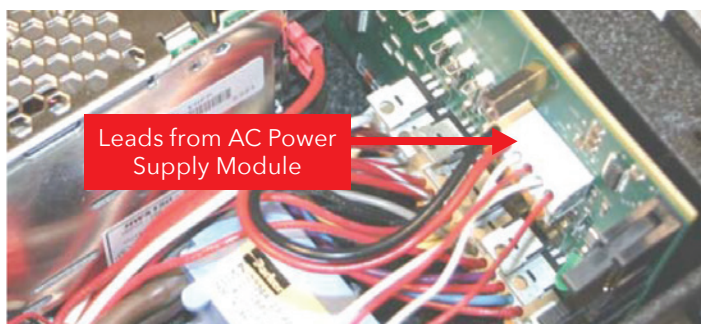

Figure 2. THE PC BOARD TERMINAL BLOCK.
1. Shut off machine power by placing power switch in the OFF (O) position. With the power switch in the off position, unplug the power cord. If possible, move the dehydrator to a work table.
3. Disconnect the two wires (red and black) running from the AC power supply module to the terminal block on the PC board. Refer to Figure 2. Using a small screwdriver, press in on the orange release tab under the lead then gently remove the lead. Repeat for the other lead.